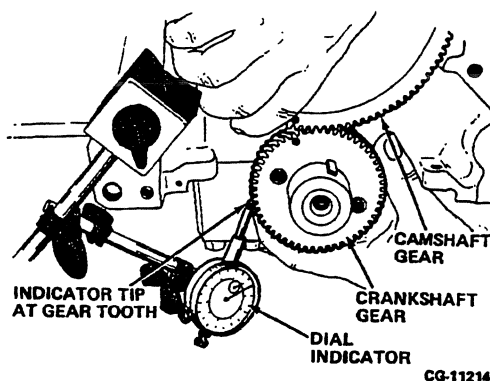

Figure 6.37. Checking Camshaft and Crankshaft Gear Backlash
8. Rotate the crankshaft and camshaft to verify that the gears do not bind or interfere. With the use of a dial indicator, **Figure 6.37**, check the gear backlash (see **SPECIFICATIONS**). If backlash limits are exceeded, timing gears should be replaced.